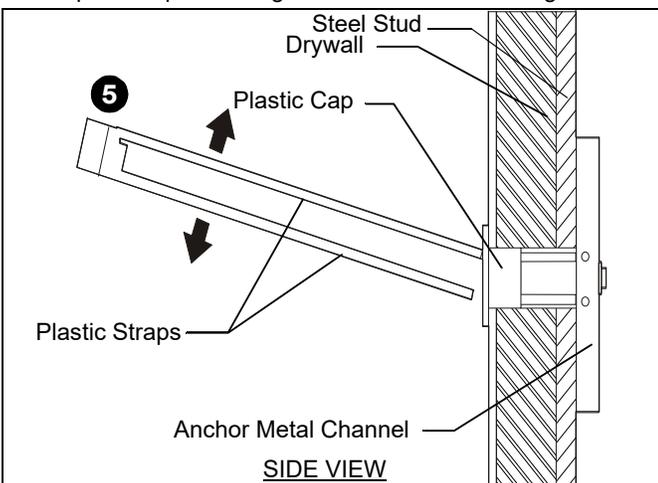

Figure 17
5. Snap off plastic straps on anchor at wall by pushing side to side, snapping off straps level with flange of plastic cap. (See Figure 17)